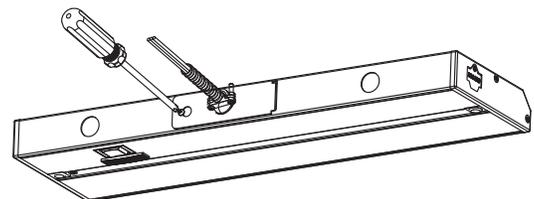

Figure 7
6. Push all wires inside the luminaire and re-attach the rear access door with the screws (Fig. 7).